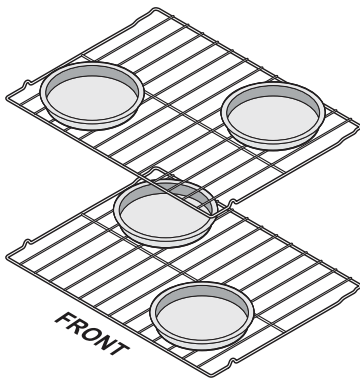

Figure 4: Pan positions two rack baking
- For best results when baking cakes using two oven racks, place racks in positions 3 and 5 (See Figure 4).
- When baking using two oven racks, position cookware as shown in Figure 4.